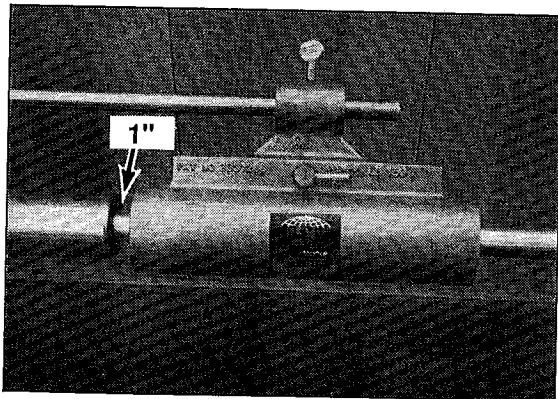

FIG. 7 FEED UNIT
1. Turn the valve on feed unit to "Open" position. Move the boring bar/drive bar away from engine block until approximately 1/2" of the boring bar protrudes from the last centering ring. With the feed valve in the "Open" position, move feed unit toward the engine block until feed unit is within 1" of the boring bar (See Fig. 7). Tighten the thumb screw onto the torsion bar securely. Tighten the square head set screw on the torsion bar bracket snugly against the cylinder block to stabilize the torsion bar assembly (See Fig. 7). Now continue to move boring bar/drive bar towards engine block until feed units end its travel. Turn feed valve to "Close" position.